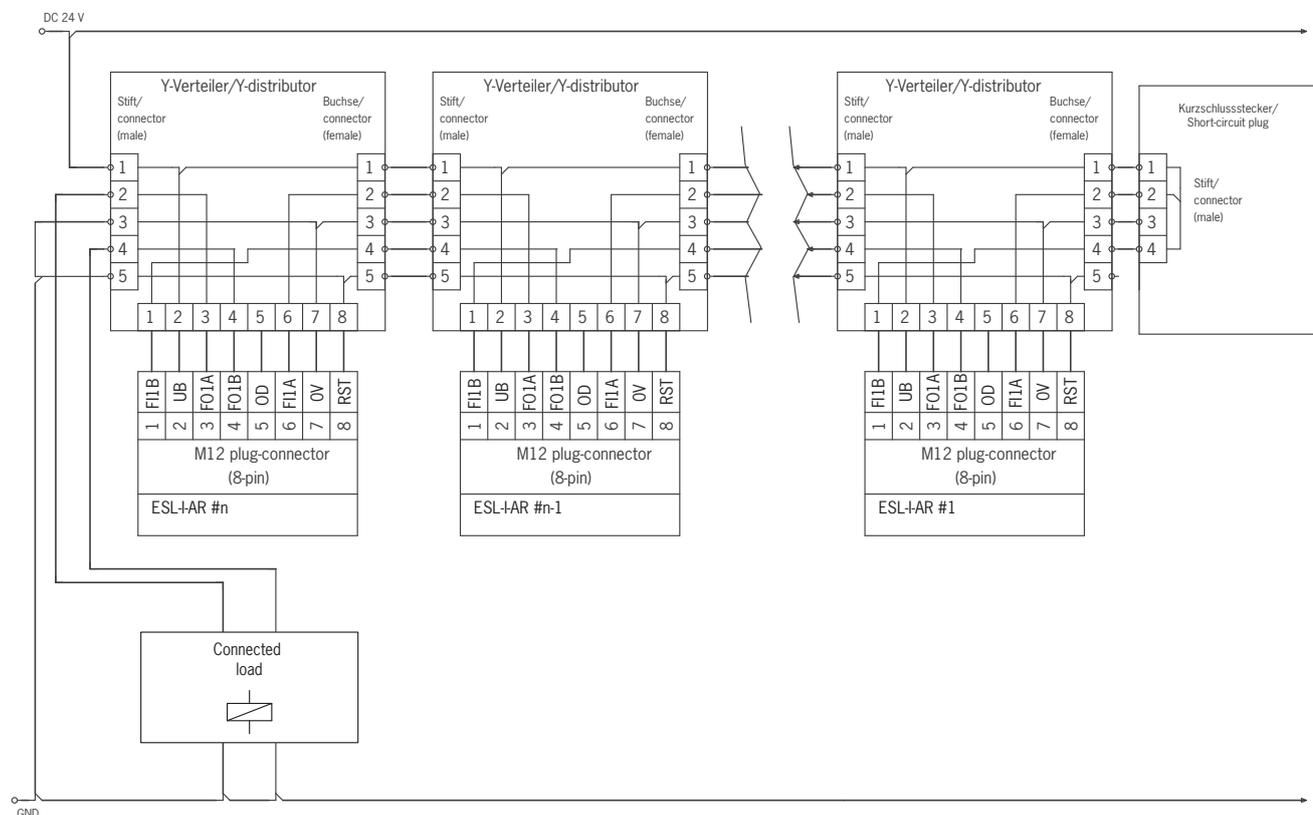

Figure 4: Connection example for series connection of several ESL-AR devices
- A common signal must be used for all switches in the chain. This can be a changeover switch or the output of a control system. A pushbutton is not suitable because the reset must always be connected to GND during operation (see switch S1 in *Figure 4 on page 17*).
The RST input must be connected as shown in *Figure 4 on page 17* to permit this.